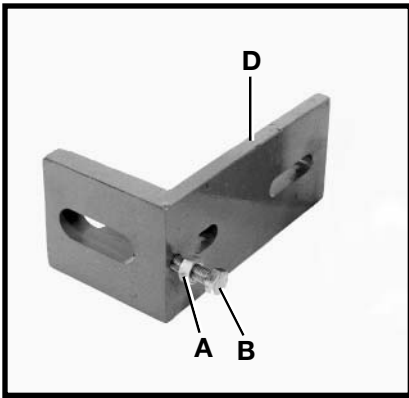

Fig. 9
1. Thread M8 hex nuts (A) Fig. 9 on M8 x 55mm hex socket set screws (B).
2. Thread set screws (B) Fig. 9 with hex nuts (A) into the two tapped holes in the bottom of mounting brackets (D). **NOTE:** To make installation easier, adjust the two set screws (B) so that tops of screws are equal in length, then tighten hex nuts (A) against bottom of mounting brackets (D).